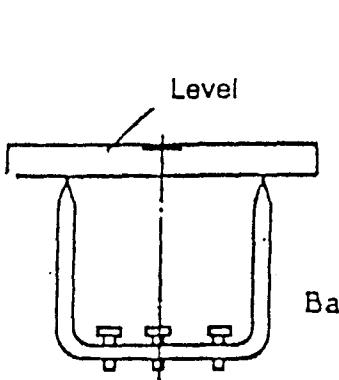

Fig. 1
- * The wheel balancing base must be levelled(Fig.1)